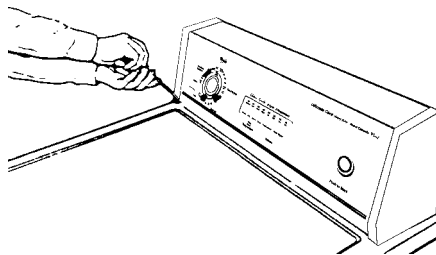

Fig. 11
1. Remove the two screws at the base of the console. (Fig.11)